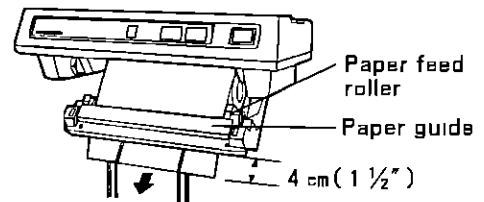

Fig 3
(2) Pass the paper over the feed roller and under the paper guide, then through the printer slot about 4 cm (1 1/2 inches) (Fig 3)